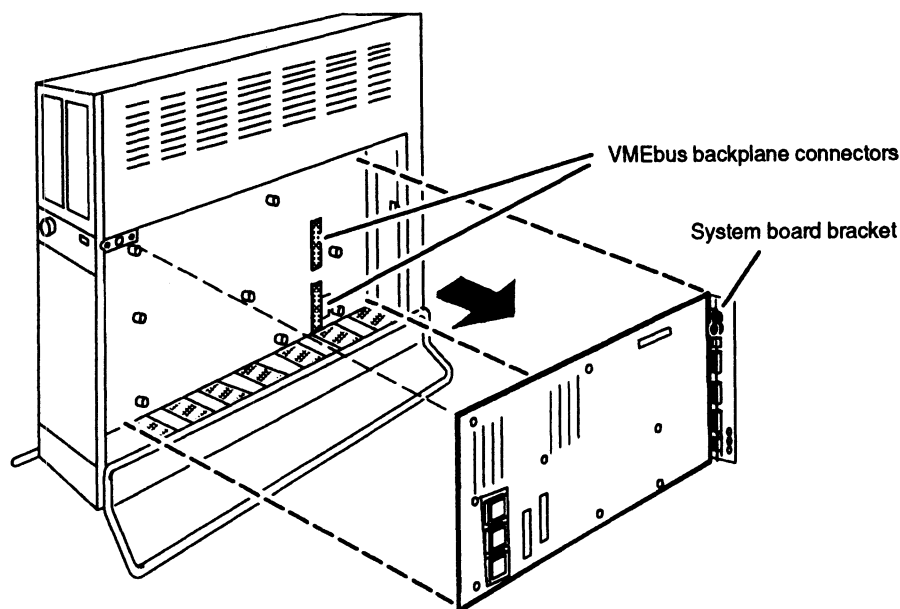

Figure 9-6 Removing the System Board
8. Remove the system board by pulling its bracket away from the computer unit, and then lifting the board out of the computer unit as shown in Figure 9-6.